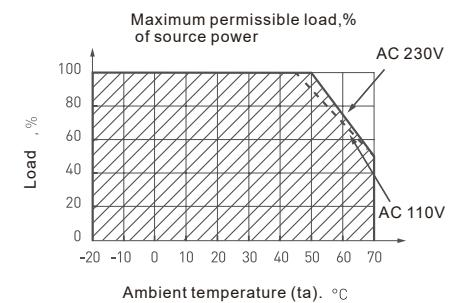

FIG.3. Power supply capacity,
- 4.3. Do not load the power source with more than 80% of its maximum power. Take into account that as ambient temperatures rise, the maximum power of the power supply decreases see FIG.3.